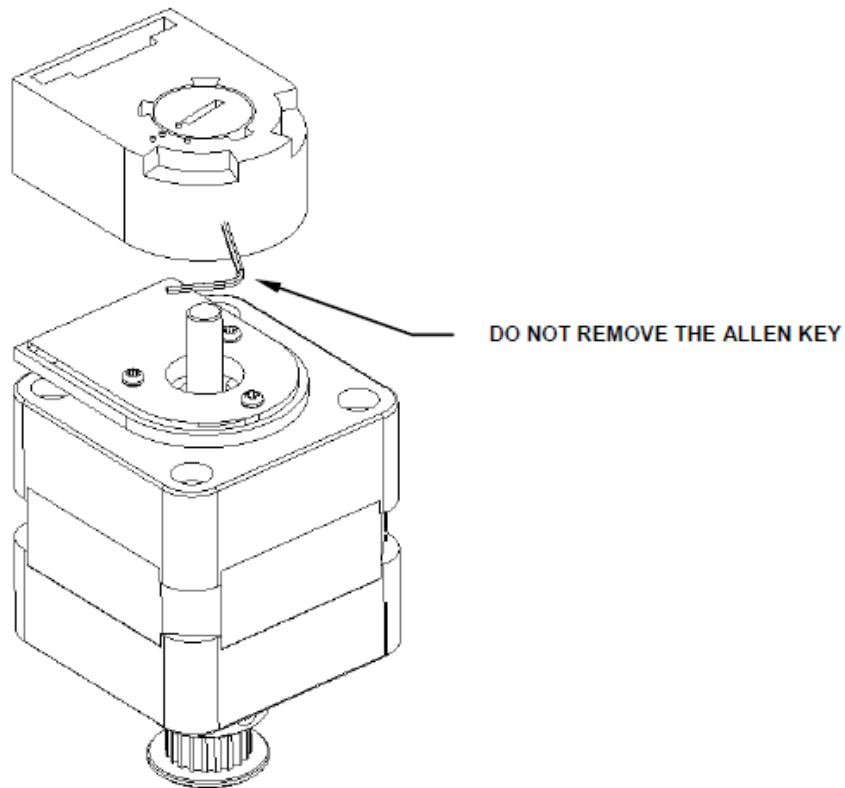

Figure U-11: Mounting the Encoder Body
3. Install the Encoder body onto the mounting plate by snapping it in place (Figure U-11).